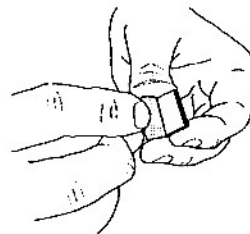
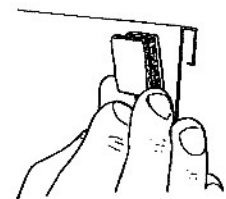

Fig. 53
Fig. 54
59. Locate the last inner packing box which you had previously set aside in Step 5. Find the Velcro pads inside the safety goggles of the large inner packing box. Then unpack the back panel (98) from its package.
60. Peel the backing from one side of a Velcro pad, as seen in Fig. 53. Carefully stick the Velcro pad on an inside corner of the back panel, as shown in Fig. 54.